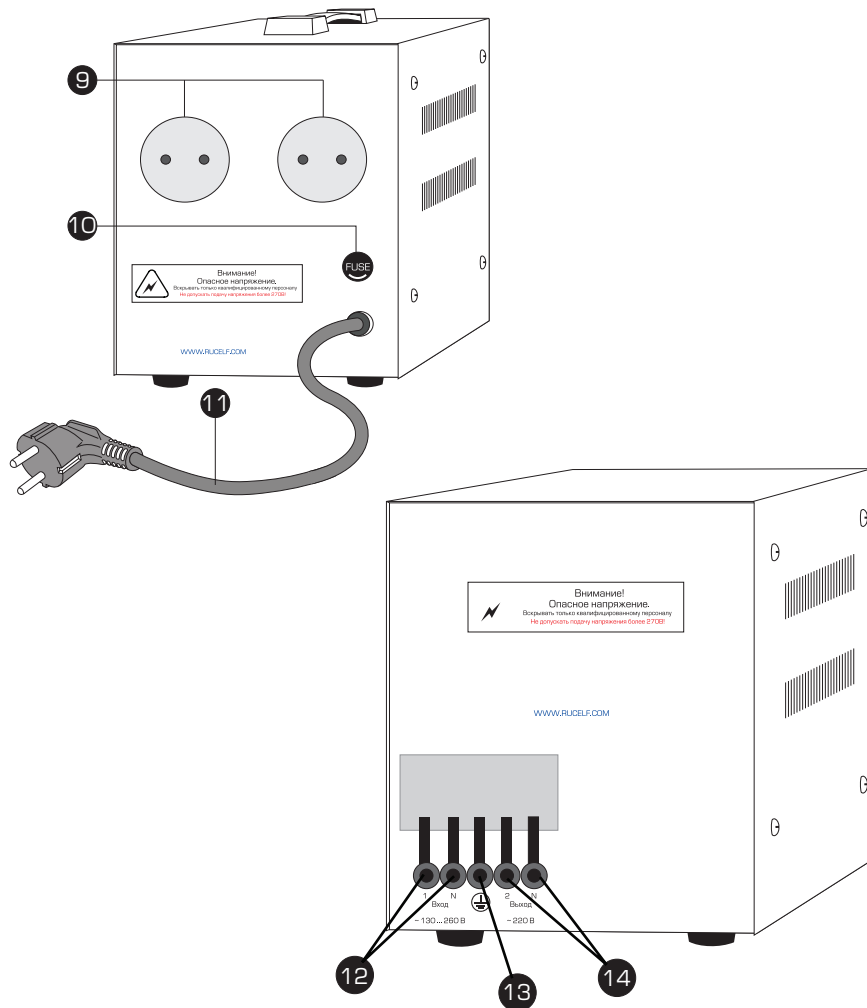

Fig. 3
- Connect the load to the stabilizer's clamps or to the outlet #9, 14 (fig. 3).